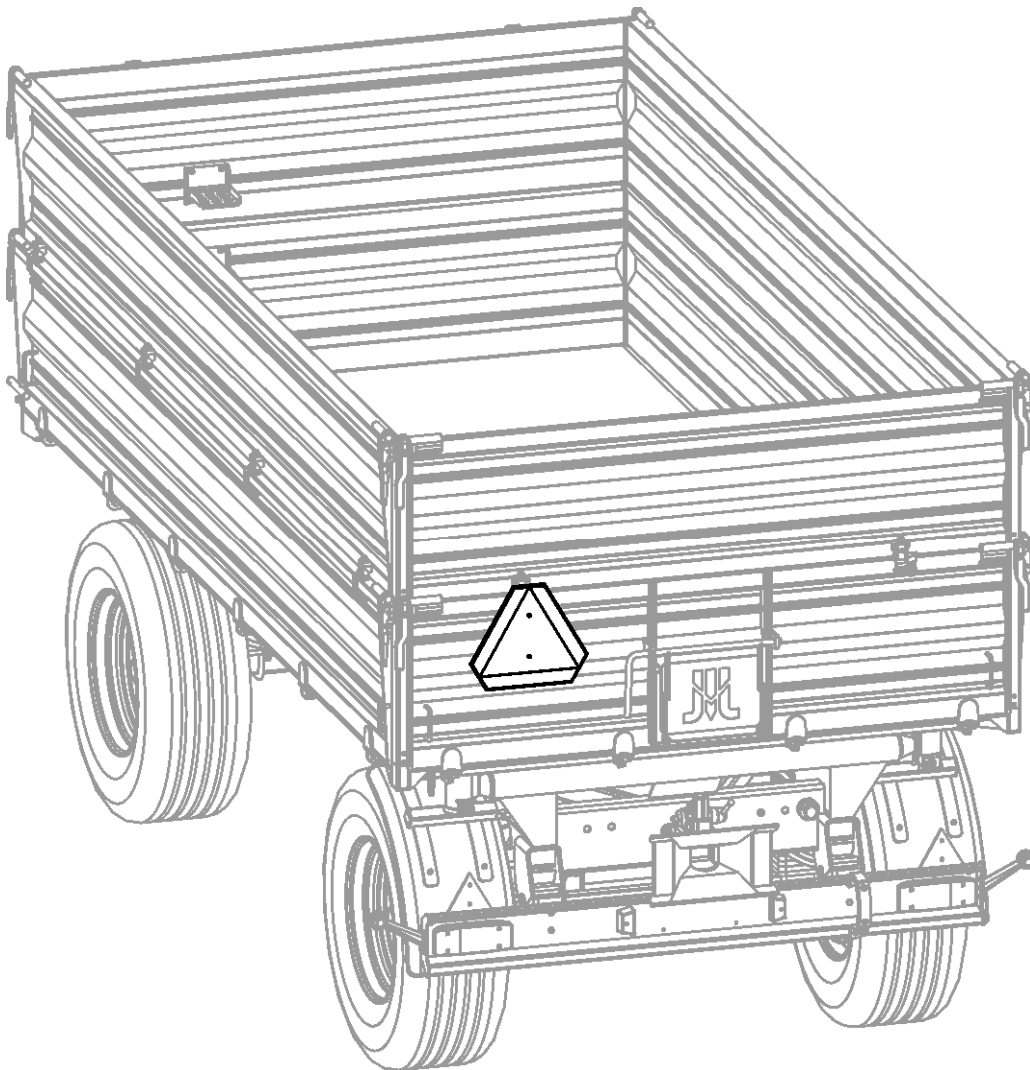

Fig. 3 Location of a triangular plate for slowly moving vehicles.
- Rear wall should be equipped with a triangular plate for slowly moving vehicles if the trailer is the last vehicle in a set (Fig. 3).